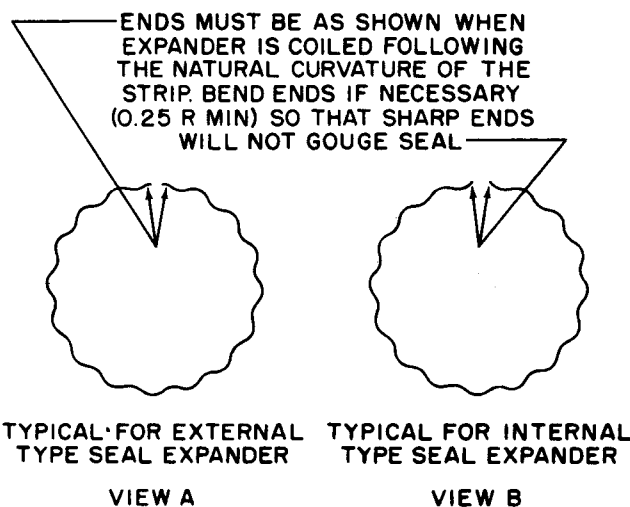

Fig. 6-16. Typical expander for Teflon sealring
(1) If the front bore of shaft 2 is worn or scored (refer to a(2), above), rework the bore to dimensions shown in figure 6-16.
(2) Chill sleeve 33 (A, foldout 15) in dry ice. Install it, internal chamfer out, and press it to flush with the front of shaft 2.